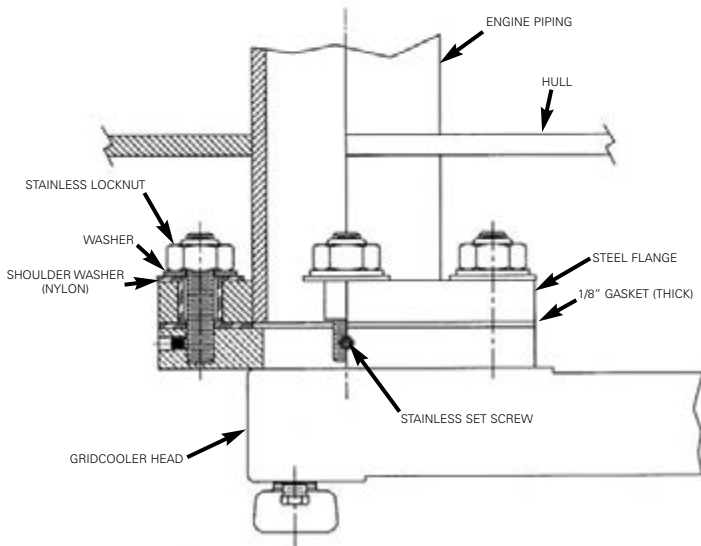

FIG. 20 Z OPTION mounting detail
- 3.2.2 The unit is also supplied with mating ASTM steel flanges and flange mounting hardware. The supplied hardware illustrated in Figure 20 includes nylon shoulder washers combined with neoprene gaskets to allow isolation from the vessel's hull. Special extra heavy lock nuts and washers are provided for a secure installation.